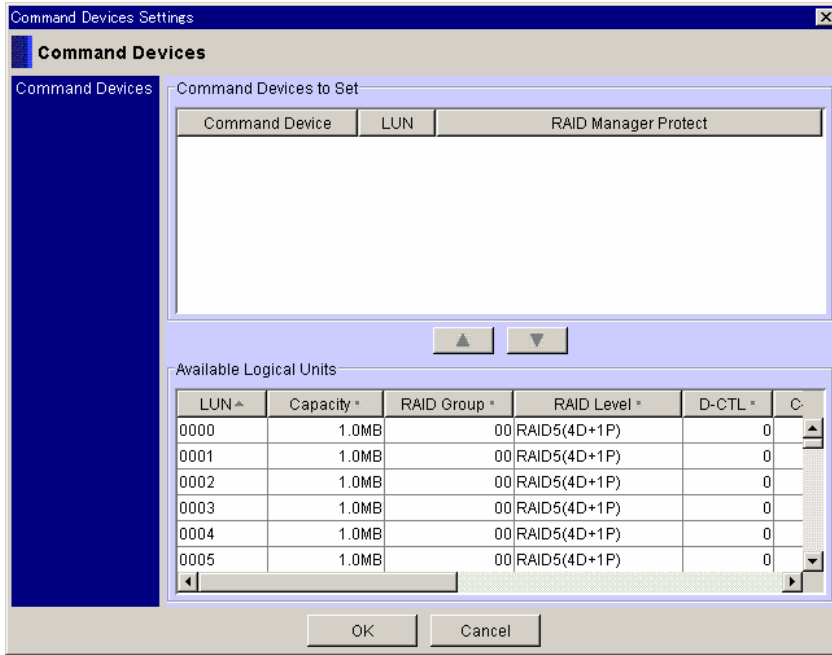

Figure 4.25 Command Devices Settings Window (before setting)
3. Click **Set** to display the **Command Devices Settings** window (see Figure 4.25).